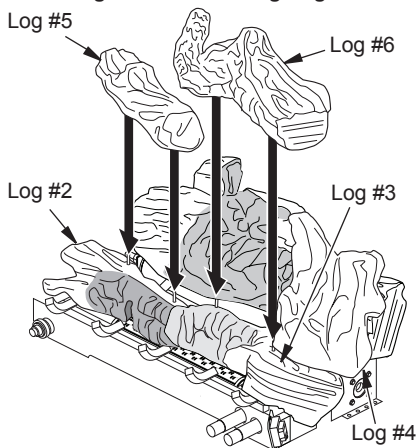

Figure 26 - Installing Logs #5 and #6
5. Align holes in bottom of left top log (#5) with pins on top of left front log (#2). Place log on pins (see Figure 26).
6. Align holes in bottom of right top log (#6) with pins on top of right front log (#3). Place log on pins (see Figure 26).